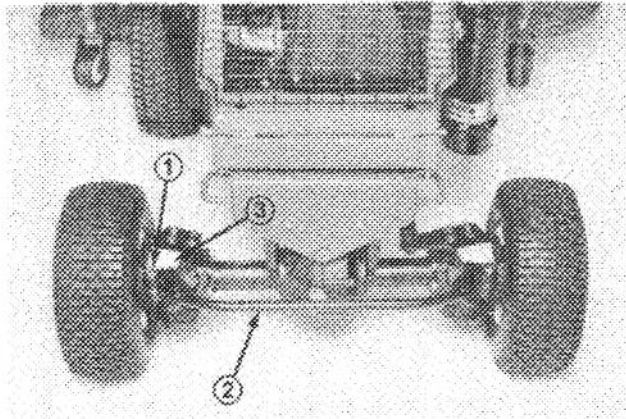

**Figure 4**
2. Remove jam nut from steering shaft. Slide foam seal and steering wheel onto steering shaft. (Fig. 4).
3. Secure steering wheel to shaft with jam nut (Fig. 4) and tighten it to 10-15 ft-lb.